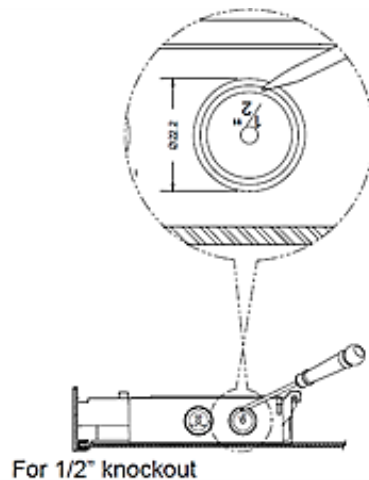

Figure 2. Remove 1/2" knockout
2. Use a small flat screwdriver to remove the 1/2" knock out as shown in **Figure 2**.